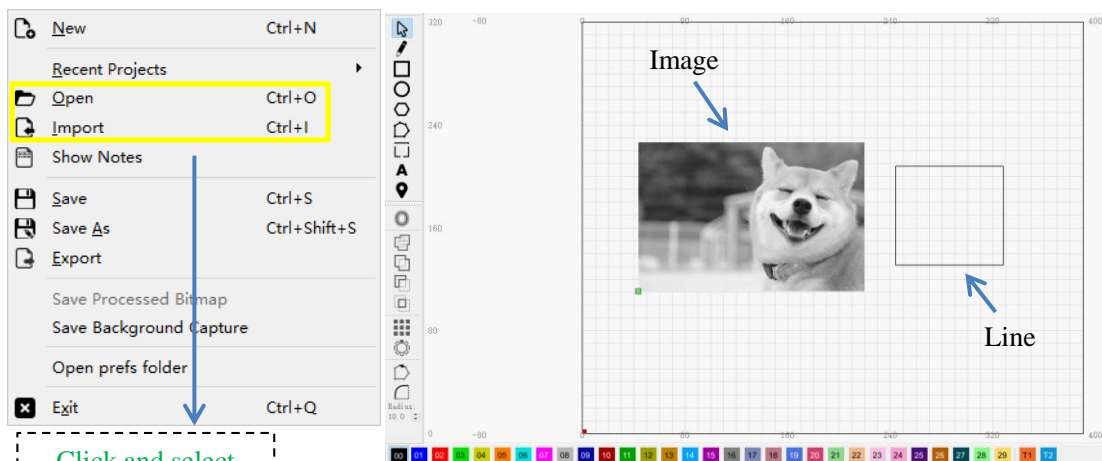

Figure 7.1 Selecting or Making Engraving Pictures
7.1. You can engrave in the work area by drawing your own graphics, or you can engrave by loading pictures (Figure 7.1)